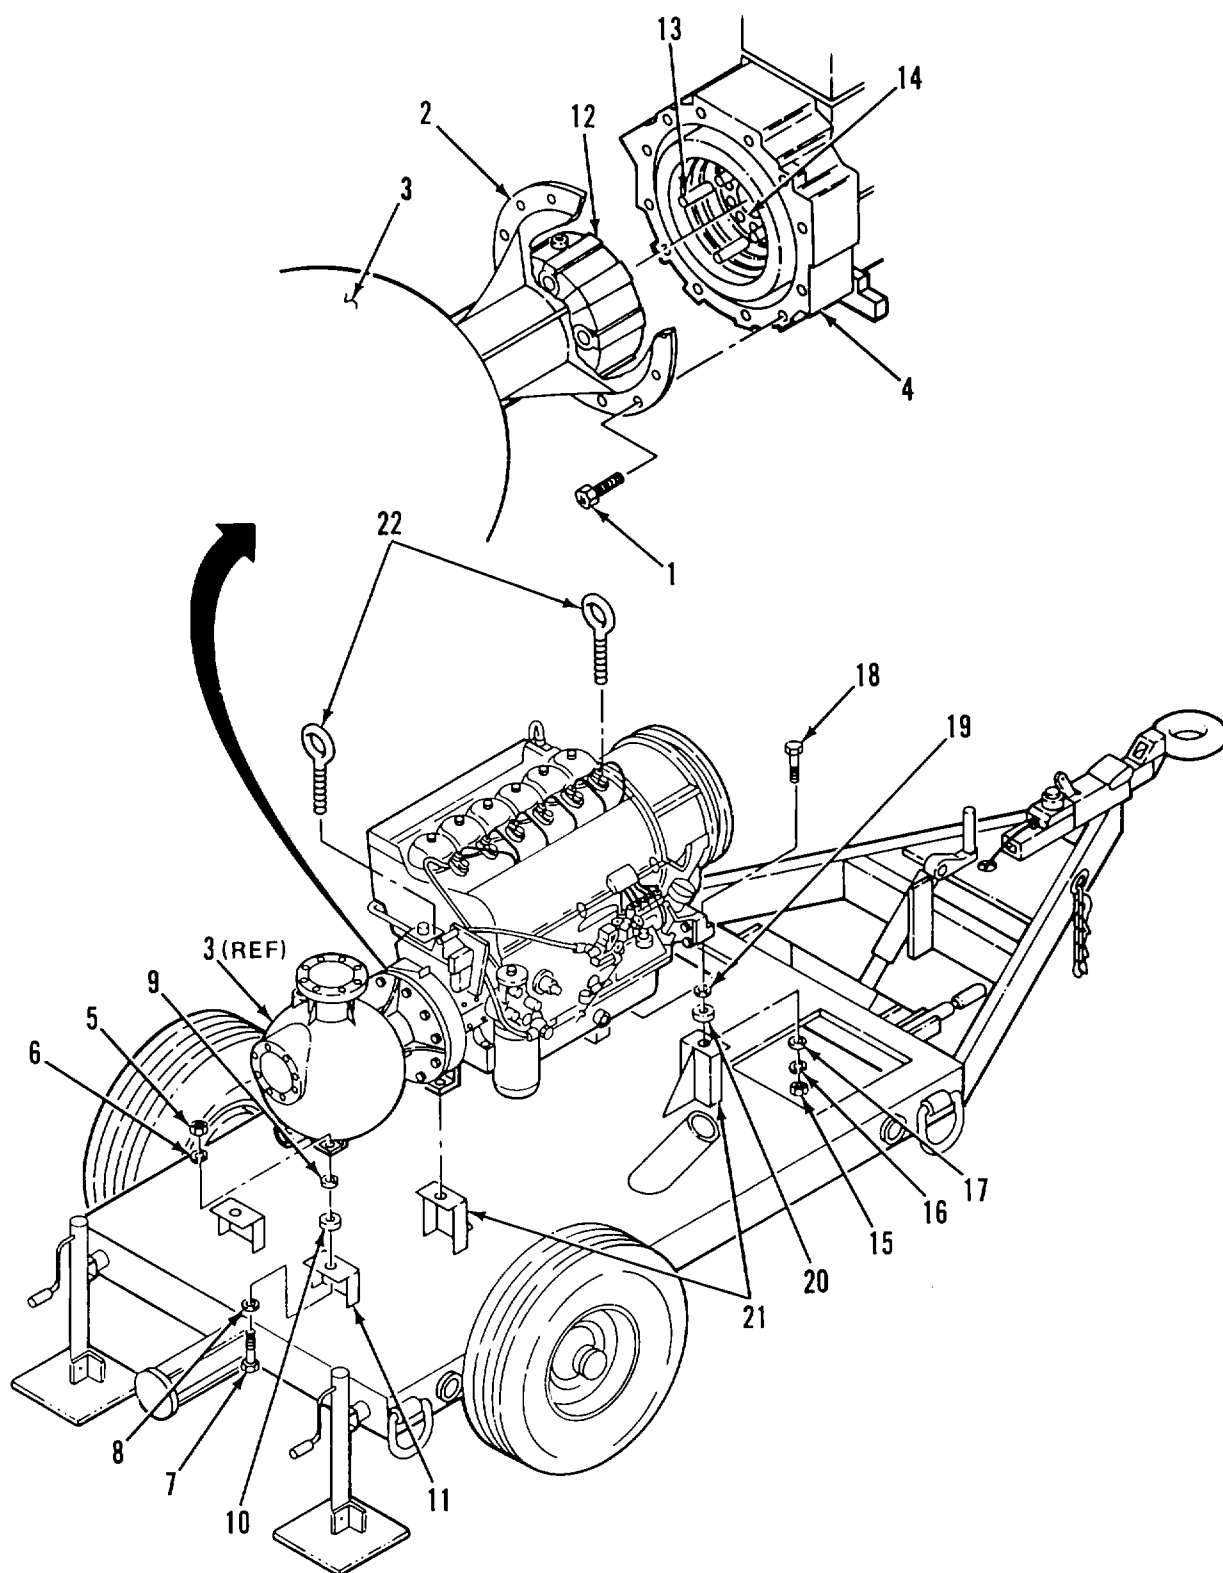

Figure 3-12. Engine and Pump Assembly Removal
a. REMOVE. (Figure 3-12)
(1) Remove pump as follows:
- (a) Remove bolts (1) that secure the bearing housing (2) of pump (3) to engine flywheel housing (4).
- (b) Remove nuts (5), lockwashers (6), bolts (7), and flat washers (8) from the two pump mounts (11) and isolators (10).